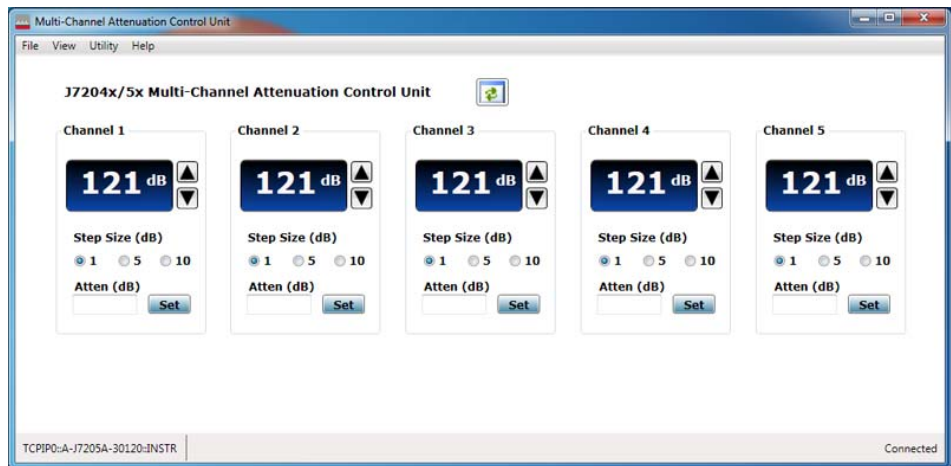
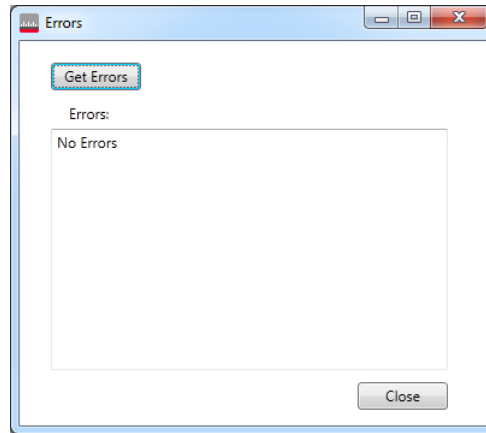
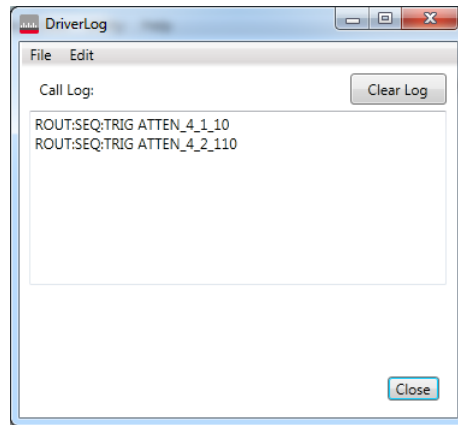

Figure 4-5 J7204/5/A/B main SFP interface
Figure 4-6 Errors window
Figure 4-7 Driver Log window
- On the J7204/5/A/B main SFP interface as shown in Figure 4-5:
- On the main SFP interface as shown in Figure 4-5, click **Utility > Reset** from the menu bar to reset the J7204x/5x to the attenuation default setting of 121 dB.
- On the main SFP interface as shown in Figure 4-5, click **Utility > Error** from the menu bar to open the Errors window as shown in Figure 4-6.
- On the main SFP interface as shown in Figure 4-5, click **Utility > Driver Call Log** from the menu bar to open the Driver Log window as shown in Figure 4-7.